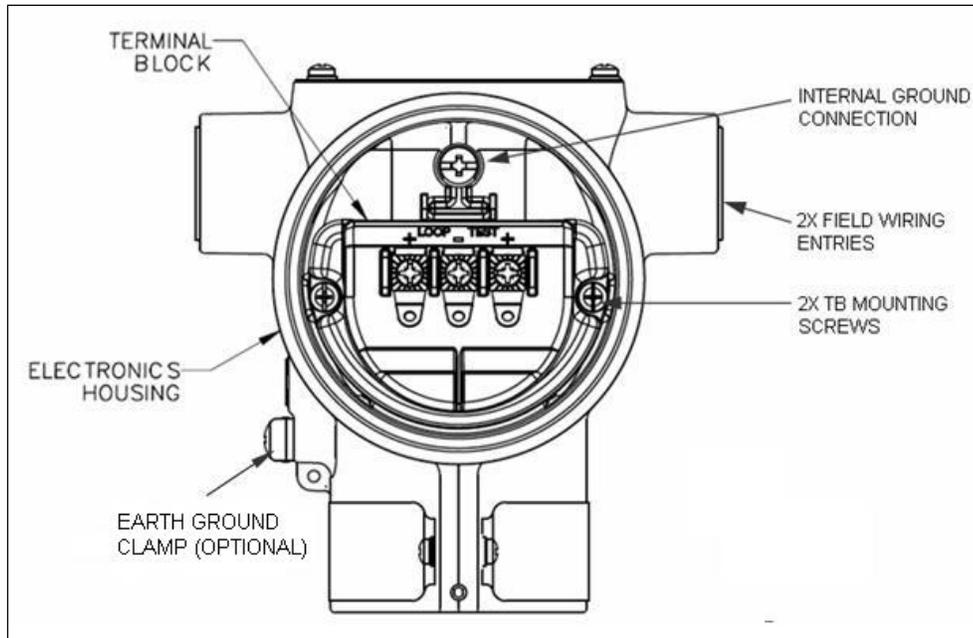

Figure 14 – Transmitter 3-Screw Terminal Board and Grounding Screw
Loop wiring is connected to the Transmitter by simply attaching the positive (+) and negative (-) loop wires to the positive (+) and negative (-) terminals on the Transmitter terminal block in the Electronics Housing shown in Figure 14.
As shown in Figure 14, each Transmitter has an internal terminal to connect it to earth ground. Optionally, a ground terminal can be added to the outside of the Electronics Housing. While it is not necessary to ground the Transmitter for proper operation, doing so tends to minimize the possible effects of noise on the output signal and affords protection against lightning and static discharge. An optional lightning terminal block can be installed in place of the non-lightning terminal block for Transmitters that will be installed in an area that is highly susceptible to lightning strikes.
1. See Figure 14, above, for parts locations. Loosen the end cap lock using a 1.5 mm Allen wrench.
If your Transmitter includes the optional lightning protection, connect a wire from the Earth Ground Clamp (see Figure 14) to Earth Ground to make the protection effective. Use a size 8 AWG or (8.37mm²) bare or green covered wire for this connection.